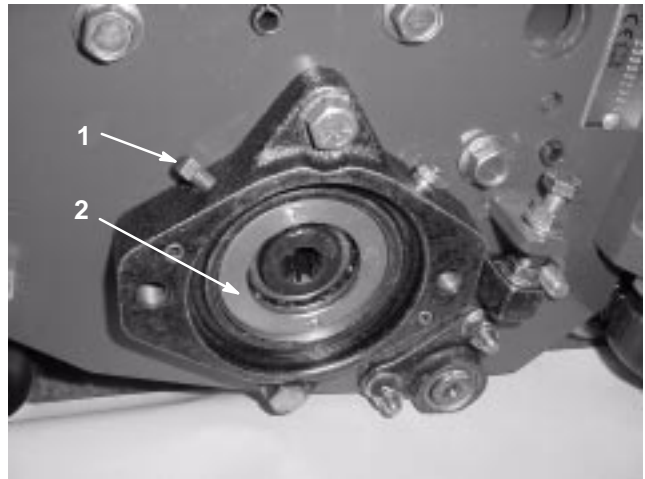

Figure 18
- A. Loosen external set screw securing bearing adjusting nut to bearing housing located on the left side of the cutting unit (Fig. 18).